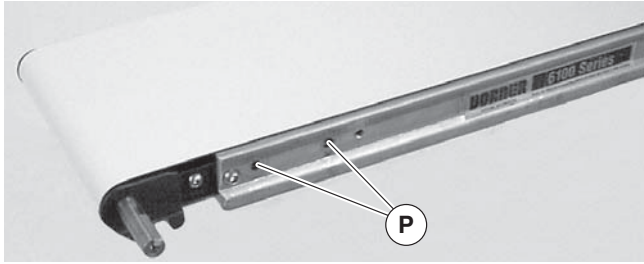

Figure 3
2. Locate drive output shaft and remove two (2) screws (Figure 3, item P).